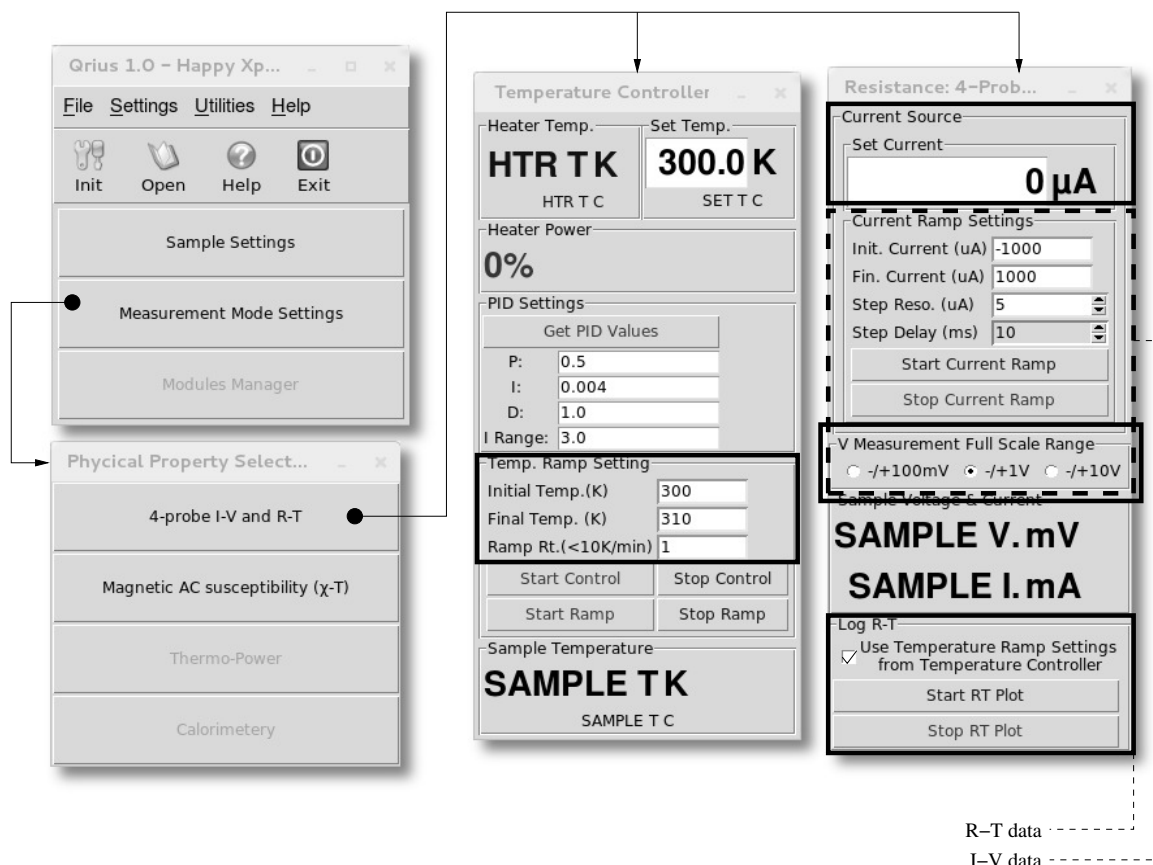

Figure 2.2: Settings to acquire  $I$ - $V$  data.
- Launch Qrius and open **4-probe  $I$ - $V$  and  $R$ - $T$**  module as shown in Figure 2.2. Consider the dotted rectangle.